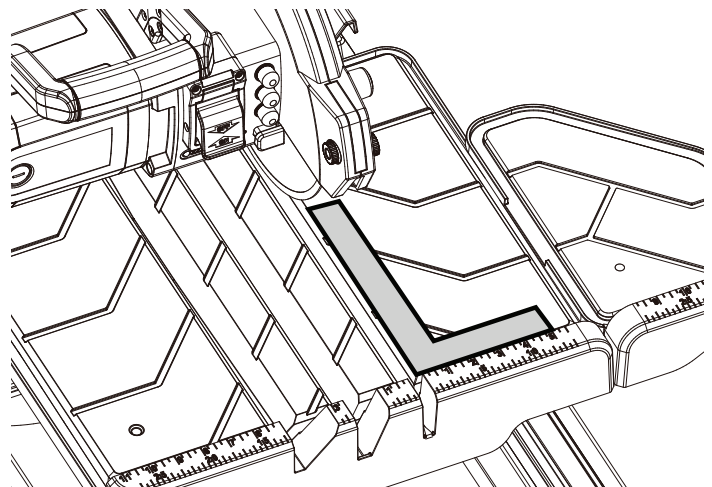

Fig. 41
4. Place a 90° framing square on the working table against working-table fence (Fig. 41).
6. If the gap is consistent, firmly secure all eight fixing screws (3). If not, repeat the adjustment steps above until the gap is consistent.